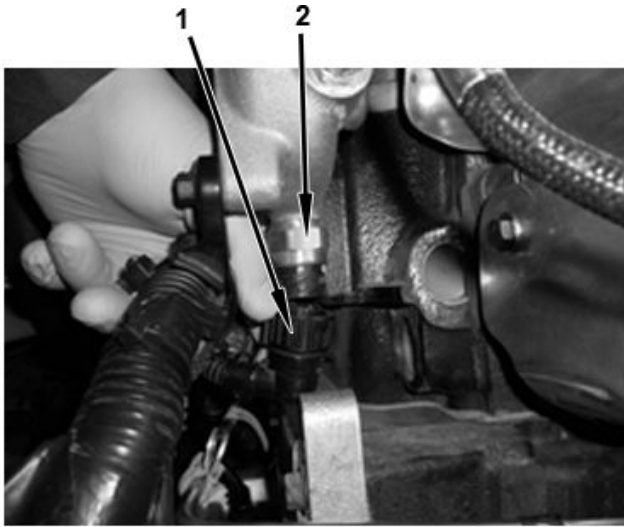

Figure 1. Engine Coolant Temperature (ECT) Sensor.
3. Disconnect Engine Coolant Temperature sensor 1 (ECT1) (Figure 1, Item 2).